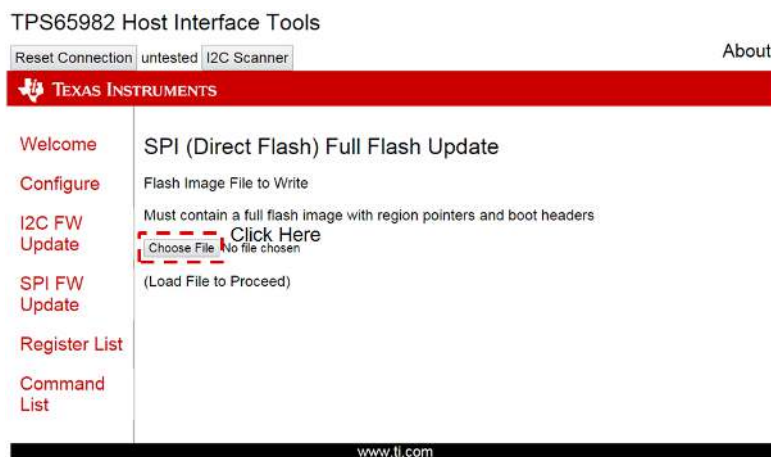
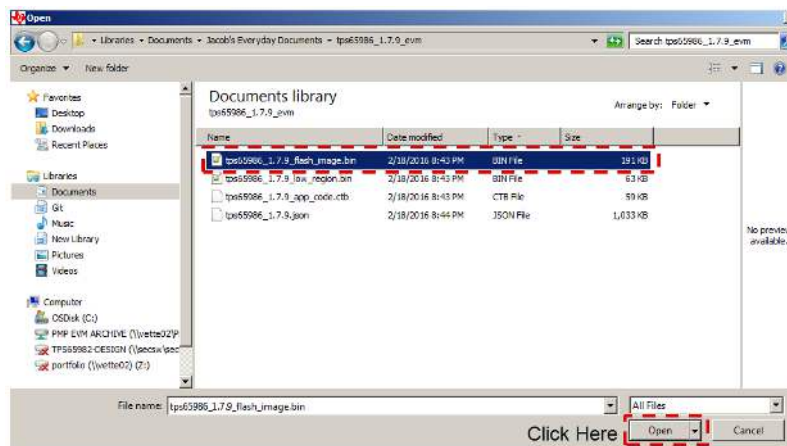

Figure 16. SPI Firmware Update—Choose File
Figure 17. Figure 19. SPI Firmware Update—Select Flash Image (191-KB .bin file)
Step 2. Choose the TPS65986EVM firmware image to load by clicking on the *Choose File* button (see Figure 16). Select the appropriate EVM image (2 region binary file) in the window and verify that it is 191 KB in size. Click the *Open* button to load the file to the TPS6598x Utilities GUI (see Figure 17).